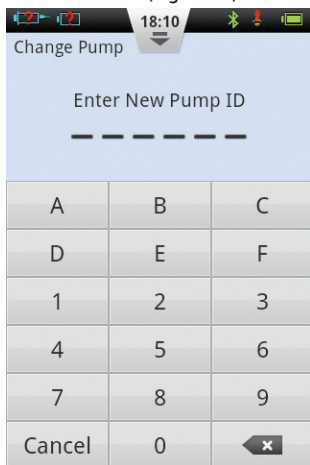

Figure 73
- 2 Enter the New Pump Serial Number in the space provided (Figure 73) using the onscreen keyboard. Press the Back button to exit the keyboard and press Continue. The PDA will attempt to connect